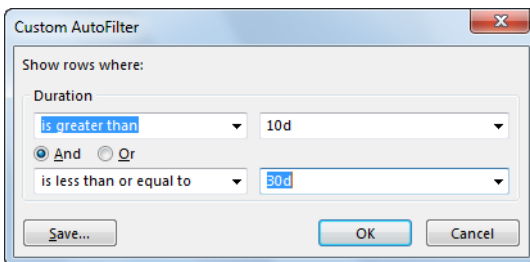

FIGURE 21-28
2. In the Custom AutoFilter dialog box, the field is set to the selected column, as shown in Figure 21-28.